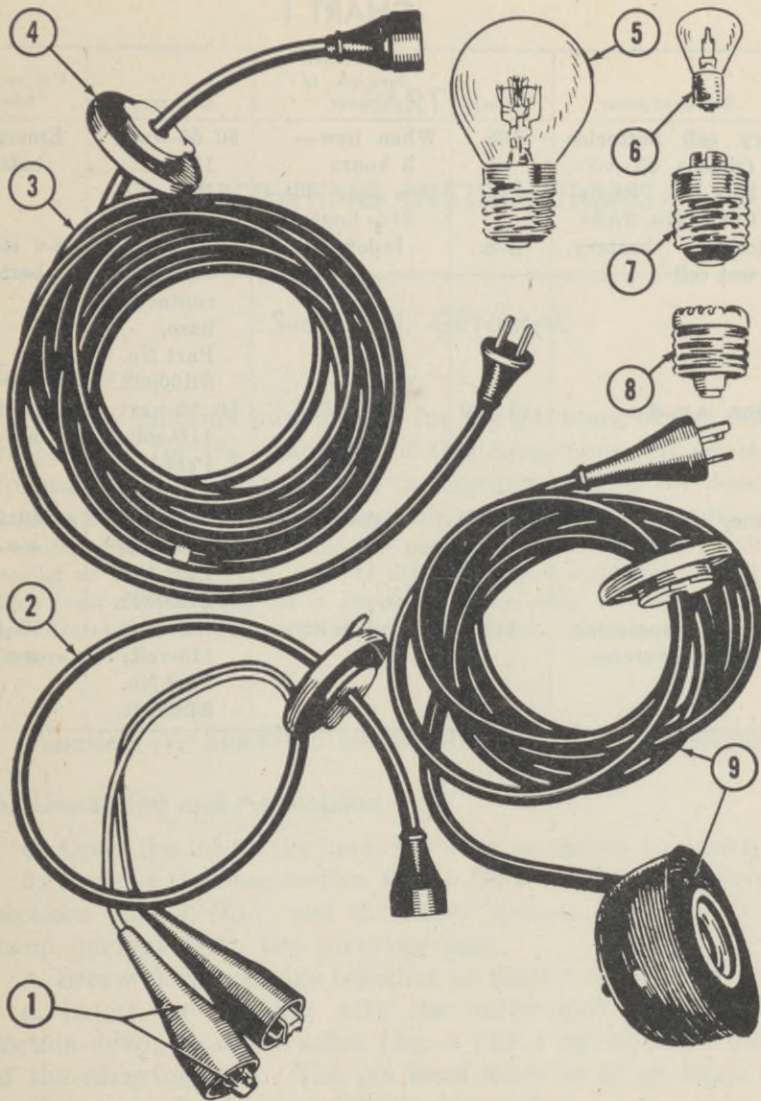

Figure 3. Field operating lamp, accessories.
b. TYPES OF BULBS USED. (1) Part No. SR00021 Bulb, 50-50-watt, 115-volt. (See fig. 3 (5).)
(2) Part No. SR00022 Bulb, 50 C.P., 6-8-volt, single-contact base. (See fig. 3 (6).)
c. MANUFACTURERS: (1) Wilmot Castle Company, Rochester, New York.
(2) American Sterilizer Company, Erie, Pennsylvania.
d. ACCESSORIES. See figure 3.
b. The lamp head must be fitted with a (SR00021) 115-volt, 50-50-watt mogul-base twin filament marine bulb. (See fig. 3 (5).) The bulb operates with both filaments in parallel.
a. The lamp head must be fitted with a 6-8-volt, 50-candlepower bayonet base bulb. (See fig. 3 (6).)
b. Remove the input cord and substitute the female plug of the short storage battery cord (fig. 3 (2)) into the input (first) receptacle.